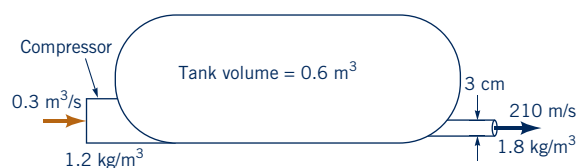

Figure P5.26
5.26 Air at standard conditions enters the compressor shown in Fig. P5.26 at a rate of $0.3 \text{ m}^3/\text{s}$. It leaves the tank through a 3 cm diameter pipe with a density of 1.8 kg/m^3 and a uniform speed of 210 m/s . (a) Determine the rate (kg/s) at which the mass of air in the tank is increasing or decreasing. (b) Determine the average time rate of change of air density within the tank.